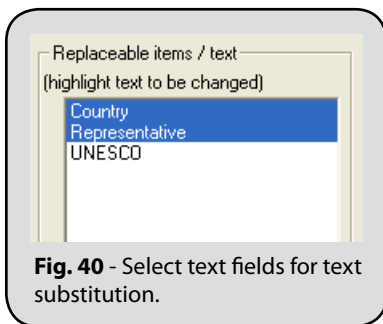

Fig. 40 - Select text fields for text substitution.
2. In the **Replaceable items / text** list, click each item for which text replacement should be applied. For this example, only the first two text fields have been selected (Fig. 40).